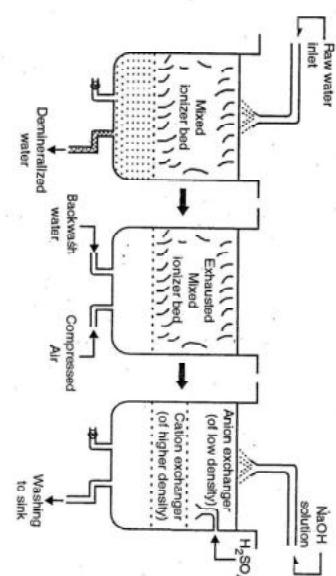

Fig. 2.13.5 : Regeneration of mixed ion exchange
- The hard water is first passed through cation exchange column and then through anion exchange column (Fig. 2.13.5).